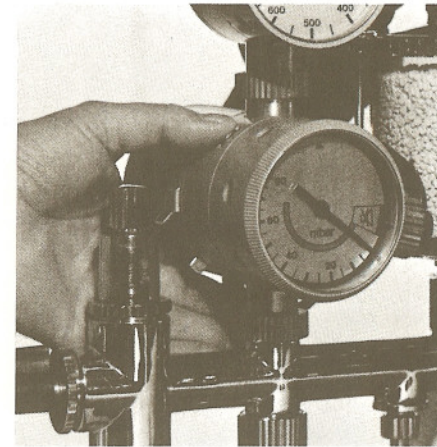

Fig. 7 Setting zero point
- 5 Connect up the respiratory pressure gauge with its alarm system to the ventilation system. Check that the needle indicator of the pressure gauge is aligned with the zero point of the mbar dial scale when there is no pressure. If necessary, turn the knurled wheel 2 until the needle indicator comes into line with the zero point (Fig. 7).